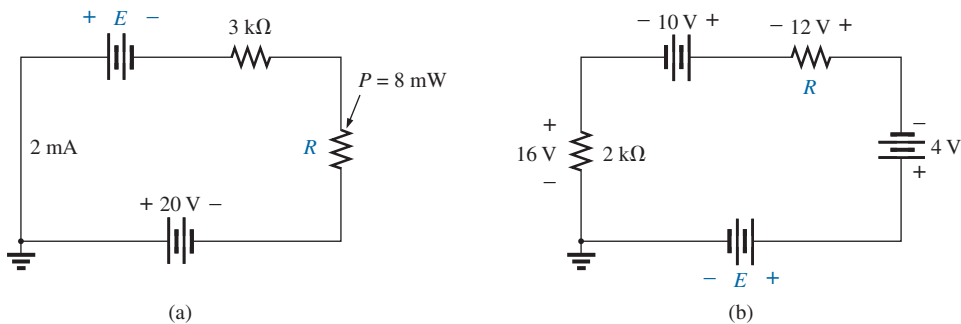

**FIG. 5.101**
17. Combine the series voltage sources in Fig. 5.101 into a single voltage source between points *a* and *b*.